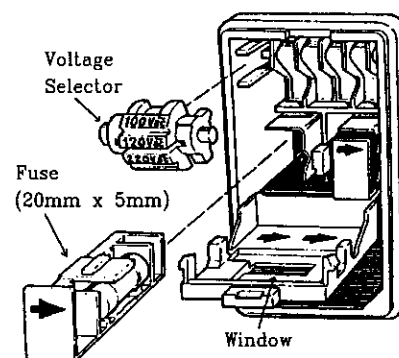

Figure 5.3
1) Mains Fuse - These fuses are located in the mains inlet filter. To replace, disconnect equipment from mains and lever down hinged cover to reveal fuse holders. See figure 5.3.